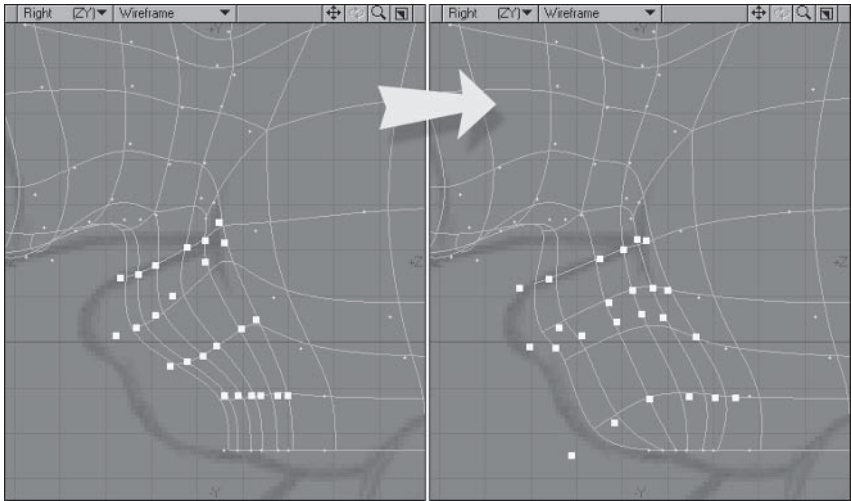

Figure 5.3-29. Starting to define the mouth area.
- 6. Select the points of the mouth and chin and adjust them from the Right view, molding the area to create the definition of the lower lip, chin, and cheeks. See Figure 5.3-29.